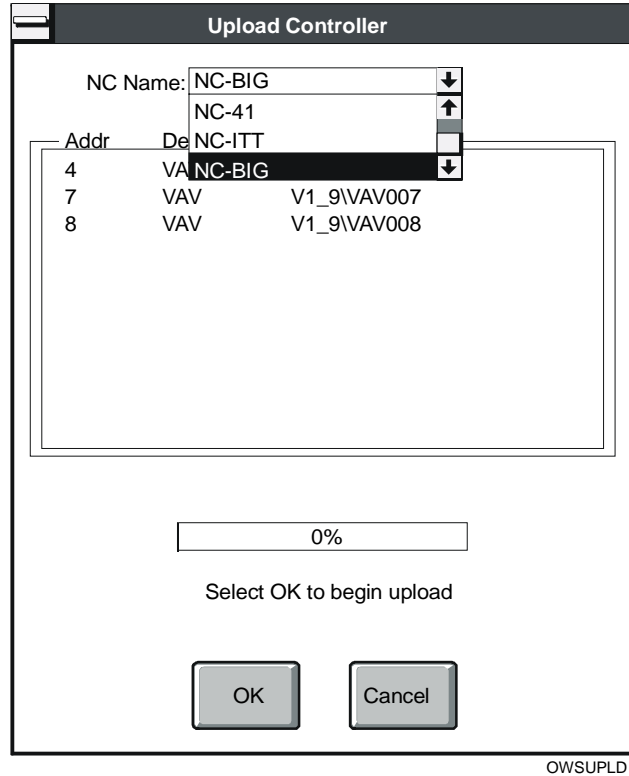

Figure 16-4: OWS - Upload Configuration Dialog Box
1. On the Upload menu, click Configuration in Controller. The Upload Controller dialog box displays (Figure 16-4).